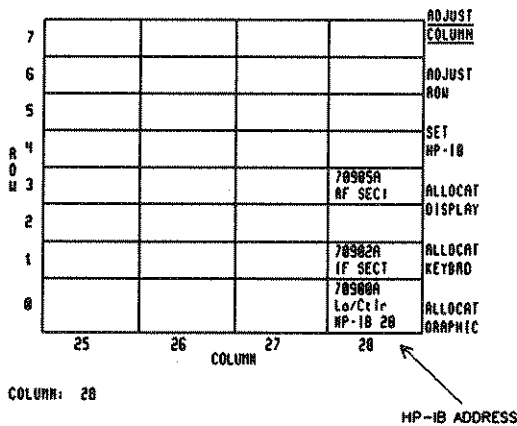

Fig. 1-1.
The HP-IB address is indicated next to the local oscillator module number. The local oscillator must be in row 0 for HP-IB access. (See Figure 1-1.)
4. **Check system configuration on the address map.** For normal spectrum analyzer operation, the local oscillator and display modules are positioned in the bottom row, row 0, of the address map with the other modules stacked in a column above the local oscillator module. (See Figures 1-1 and 1-2.) The column may contain empty spaces between modules. The modules are positioned in this way at the factory. If this is not the case, see Part 1 for configuring instructions, or refer to **ADDRESS SWITCHES** in the following text.